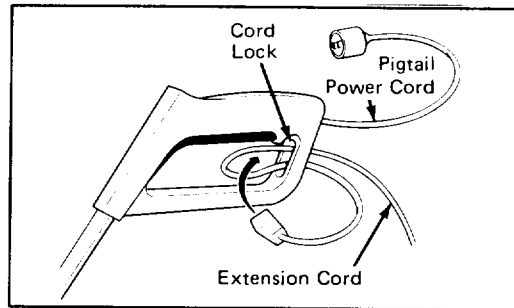

Figure 10
Note: When in doubt about what size cord to use, choose the next heavier gage. The smaller the gage number, the heavier the cord. An undersized cord causes a drop in line voltage which results in a loss of power and overheating. See Figures 10 & 11 for proper cord connection.
1. Secure the pigtail power cord and a suitable extension cord in cord lock as shown in Figures 10 & 11.